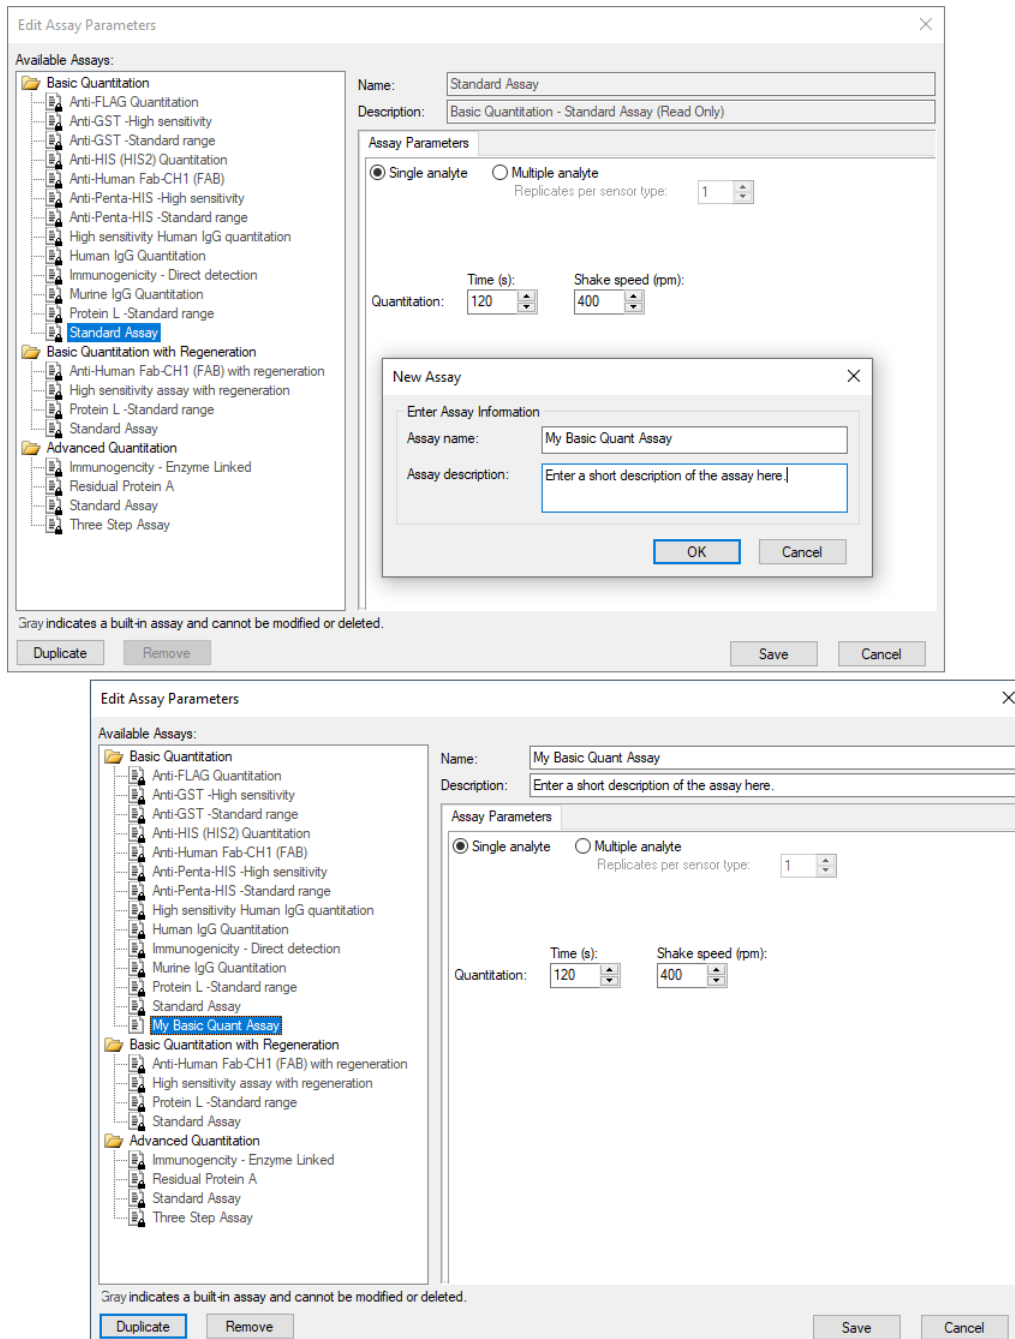

Figure 6-63: Defining a New Assay
4. In the **New Assay** dialog box (see Figure 6-63, top), enter an **Assay name**.
The new assay appears in the directory tree of available assays (see Figure 6-63, bottom).
1. In the **Edit Assay Parameters** dialog box, confirm that the new assay is selected in **Available Assays** (see Figure 6-63).